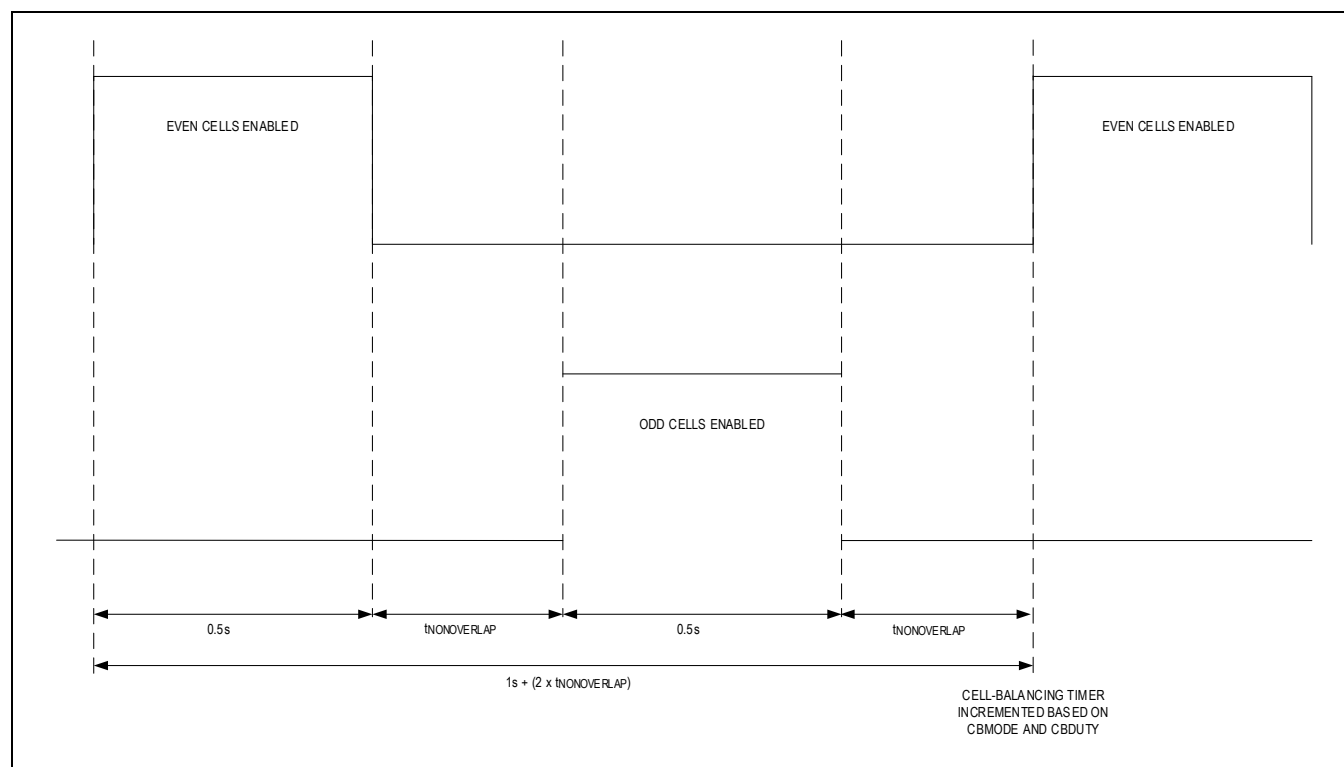
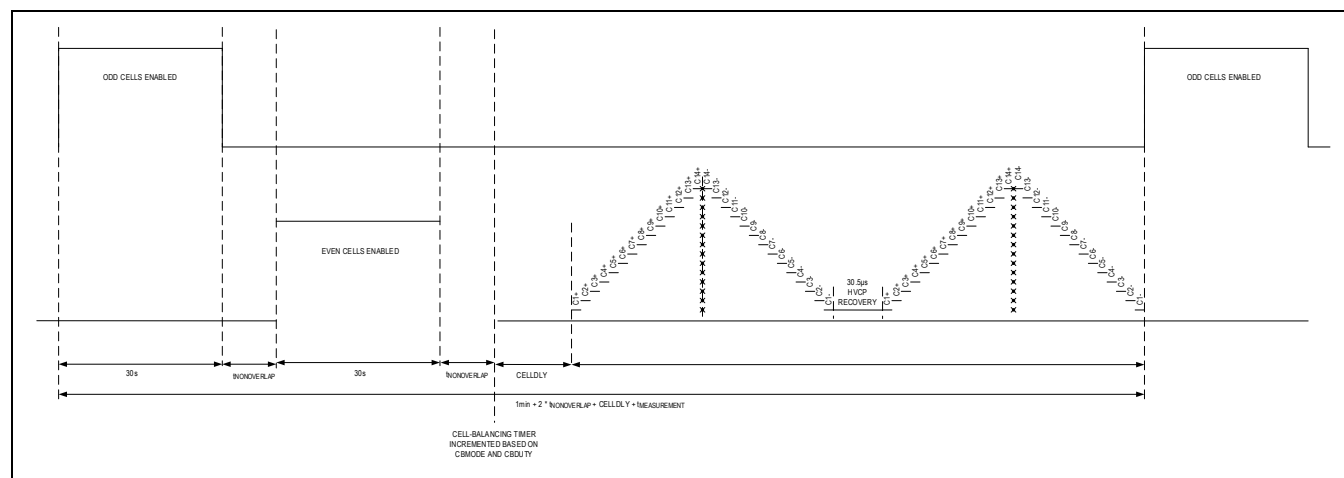

Figure 35. Auto Even-Odd Cell Balancing without UV Detection
Figure 36. Auto Even-Odd Cell Balancing with UV Detection, ADC with OVSAMPL
**Note:** Figure 35 and Figure 36 are not drawn to exact timescale. Some sections have been exaggerated for visibility. See the Cell-Balancing UV Detection section for further details and recommendation for embedded measurements during cell balancing.